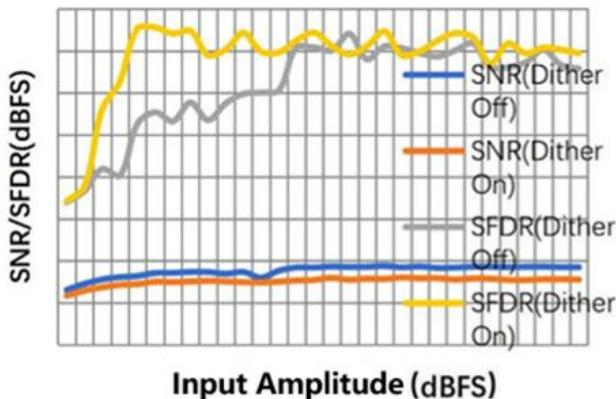
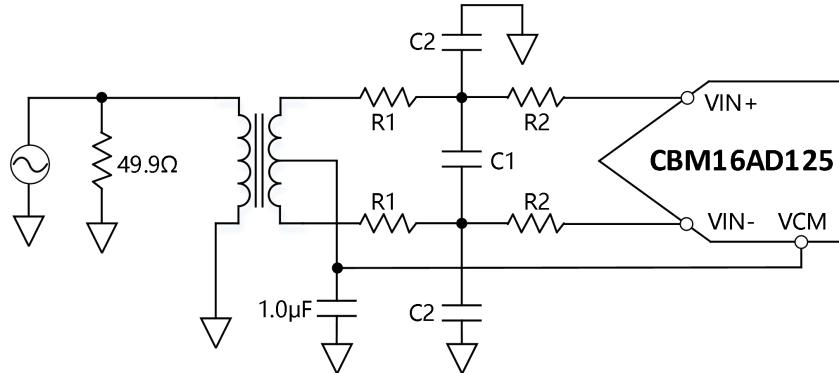

Figure 13 SNR/SFDR vs. Input Amplitude(fin=30.1MHz)
Figure 14. Differential Transformer-Coupled input Configuration
The ADC analog inputs are not internally dc biased. In coupled applications, the user must provide this bias externally. An on-chip, common-mode voltage reference is available from either the V_{CM} pin or autonomous setting if V_{CM} = 0.5×AVDD (or 0.9 V) are met. When the common-mode voltage of the analog input is set by the V_{CM} pin voltage (typically 0.5 × AVDD). The V_{CM} pin must be decoupled to ground by a 0.1μF capacitor (Figure 13, Figure 14)
1. The input configuration uses differential transformer coupling. An example is shown in Figure 13. To bias the analog input, the V_{CM} voltage can be connected to the center tap of the secondary winding of the transformer.
2. The input configuration uses differential double balun coupling (see Figure 14). In this configuration, the input is ac-coupled, and the CML is provided to each input through a $33\ \Omega$ resistor. These resistors compensate for losses in the input baluns to provide a $50\ \Omega$ impedance to the driver. Table 8 displays recommended values to set the RC network.